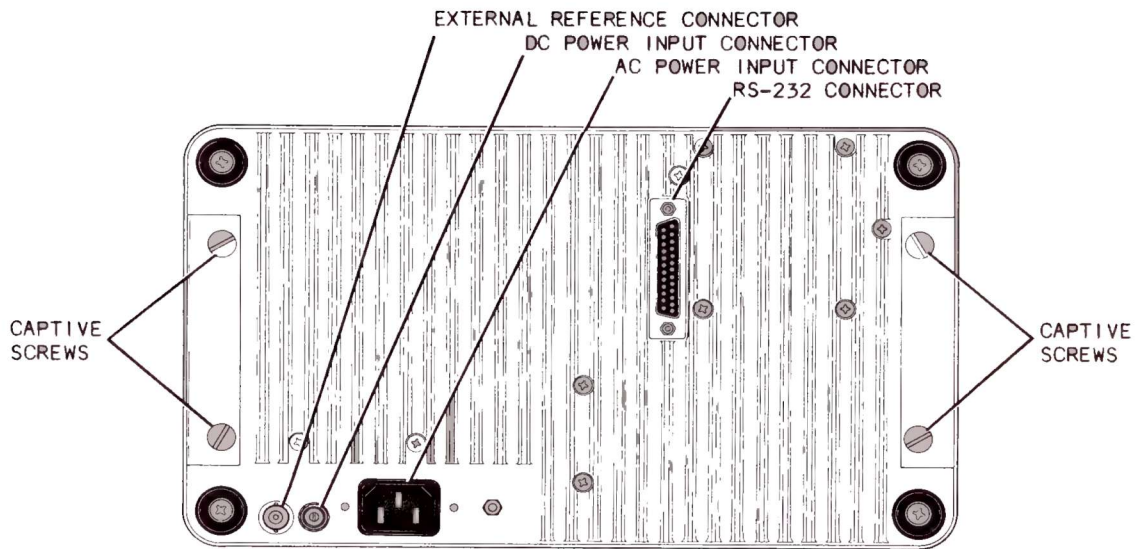

Figure 2-2 FM/AM-1200 Rear Panel
1. Loosen four captive screws attaching rear escutcheon to Rear Panel Heat Sink (Ref. Figure 2-2).